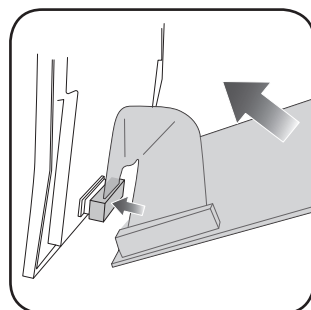

Fig. 3.2
2. Reconnect the climate control board to the climate housing. (Fig. 3.2)